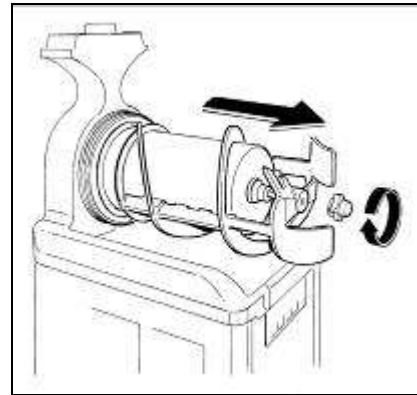

Fig. 18
- Unscrew the security knob in the direction of the arrow (threading on left), then pull out the mixing unit, the bell shaped seal and the bowl gasket on the back (fig.18).